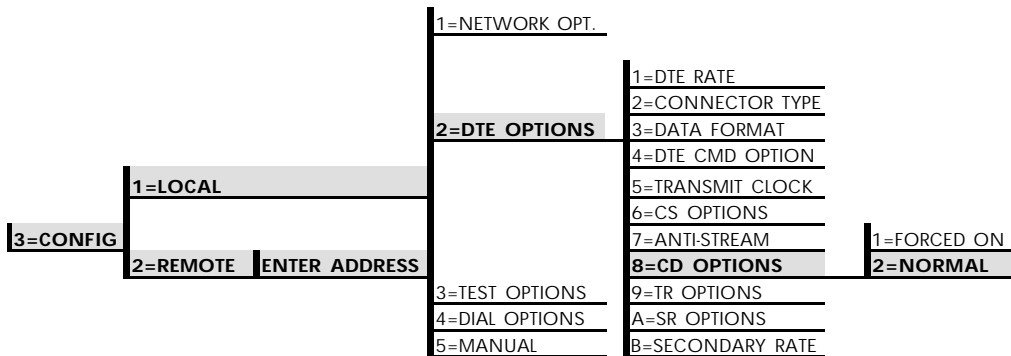

Figure 6-8
The CD Options menu is used to select the control mode for the receive line signal detector (CD) lead. The default factory setting is Normal; see Figure 6-8.